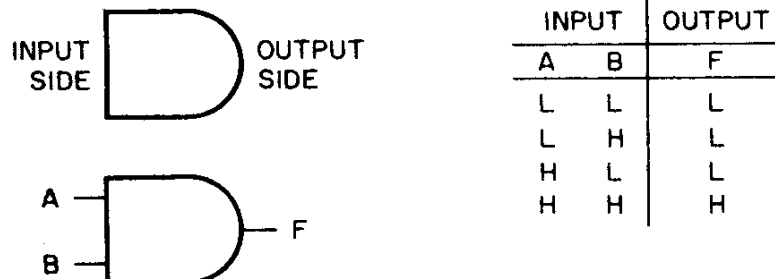

Figure 8-1 Symbol, AND Function
- a. AND—The symbol in Figure 8-1 represents the AND function. The output (F) is high only if both inputs (A and B) are high.